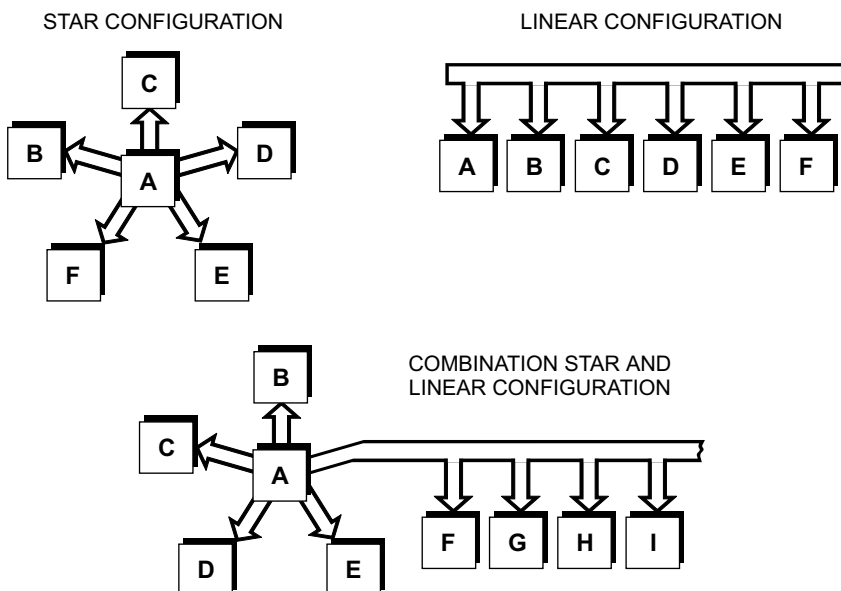

Figure 29. GPIB devices may be connected in star, linear, or combination star/linear configurations
- Devices may be connected in a star or linear configuration (see Figure 29), or a combination of star and linear configurations.